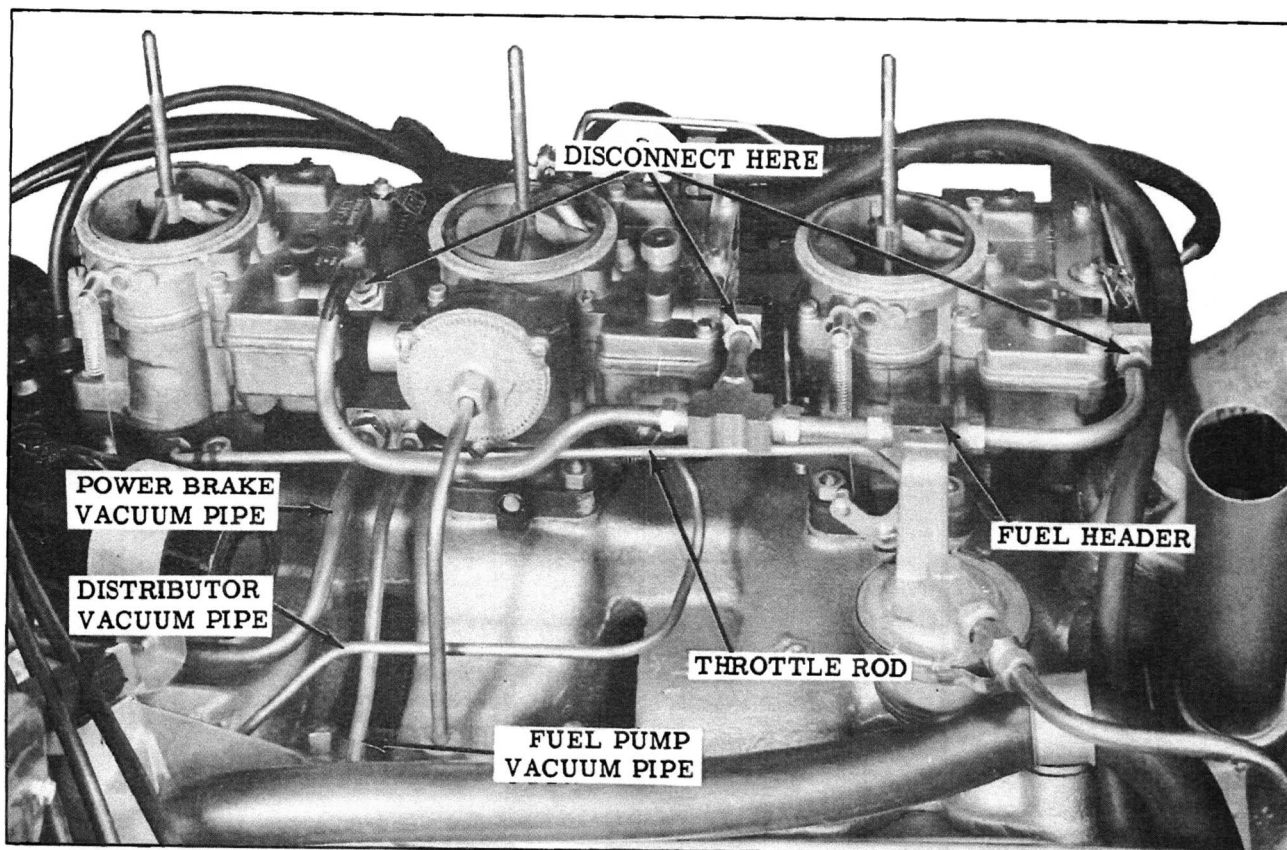

Fig. 8 Right Side View of Installation
2. Disconnect fuel lines from carburetors in three places as shown in Fig. 8.